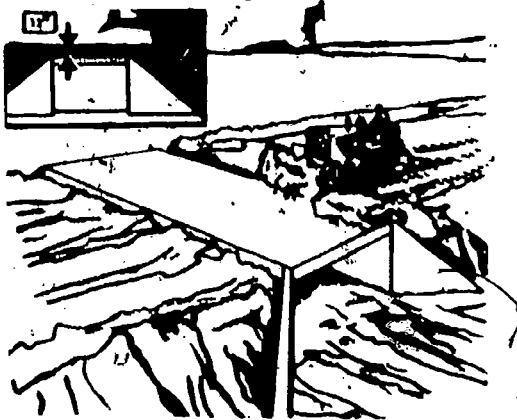

Fig 4-30. Backfilling a culvert with a dozer.
d. Backfilling. Dozers are the best pieces of equipment for backfilling, because material is pushed directly ahead of the machines over banks into ditches, or directly against a structure. When backfilling culverts, crawler tractors should not cross over the culvert unless there are 12 inches of solid material on top of the culvert (fig 4-30). The operator should raise the blade as the dozer nears the trench or abutment, permitting the fill material to be placed with a minimum of force. This will tend to leave an excess of material, which will allow for the compaction or settling of the fill material. It will also tend to keep the dozer from applying too much pushing force against a structure, causing it to collapse.